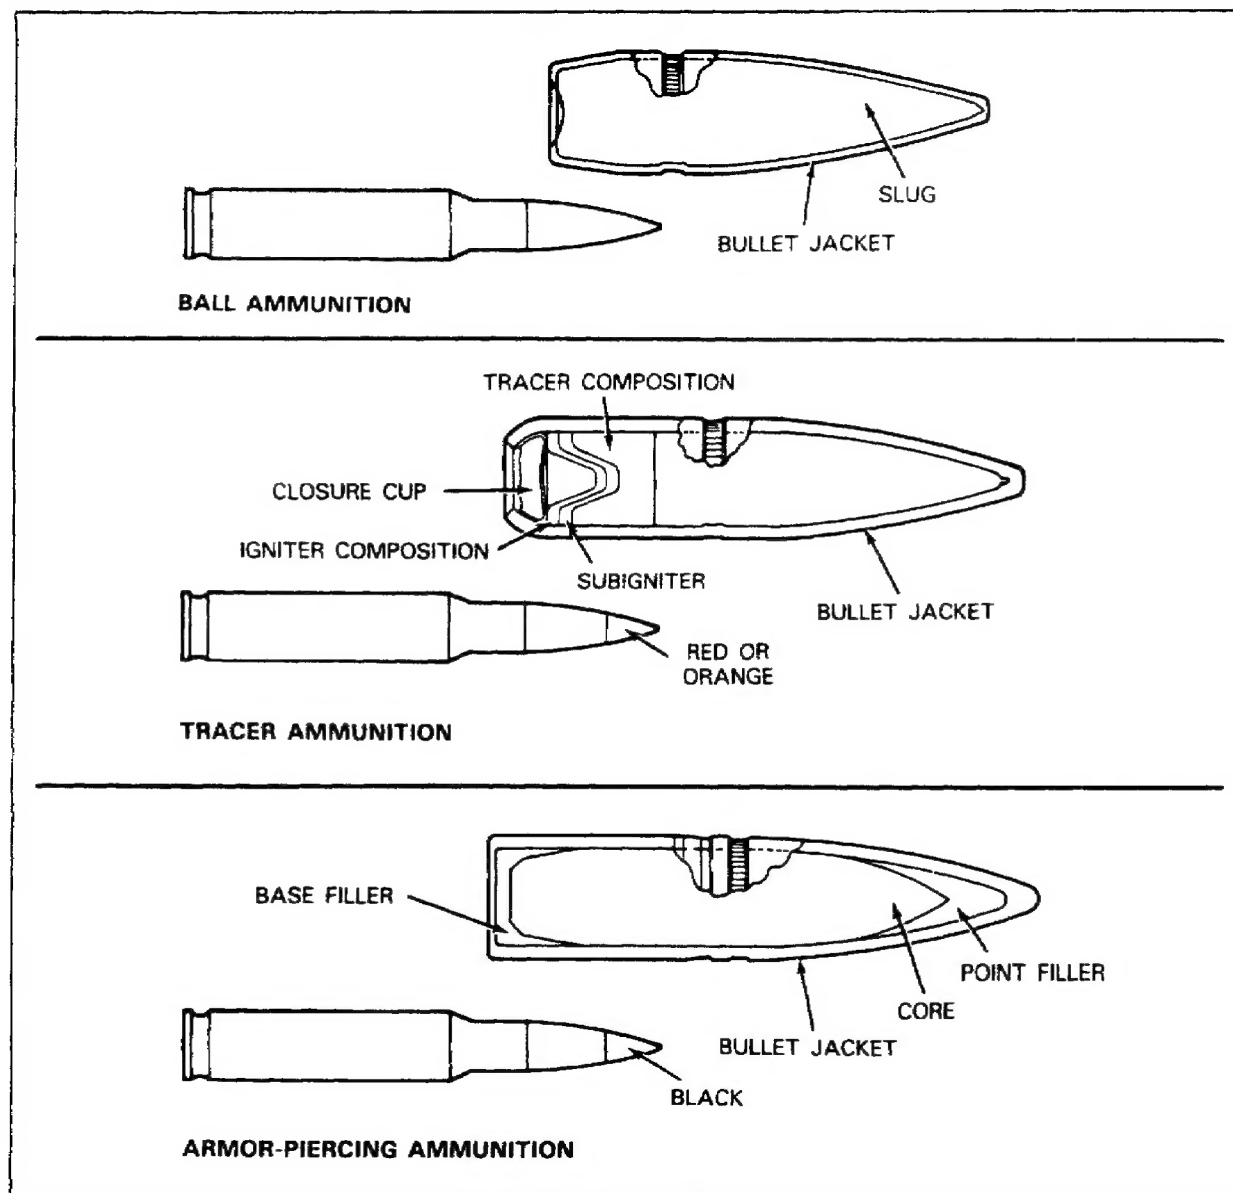

Figure 4. Comparison of Basic Cartridge Types.
**Combat and Training.** Small arms cartridges in this category are commonly known as service rounds. They include ball, tracer, armor-piercing, incendiary, and other types of cartridges. See Figure 4.